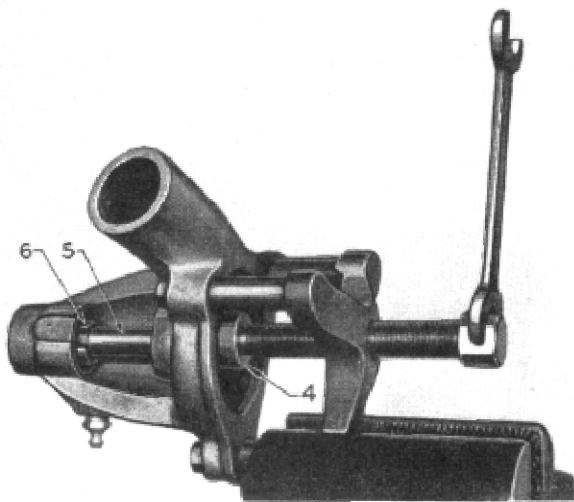

Figure 8
(9) Fig. 8—Assemble pilot (3) on the screw. Insert shaft (5) through the front bearing support, slipping the needle roller bearing on the shaft from the rear. Enter the shaft (5) in the pilot (4). Move the bearing forward and put the small horseshoe (6) in place in the groove in the shaft. Guide the bearing into the support while tightening the screw until the front of the bearing is flush with the front of the support. Back off screw and remove horseshoe (6).